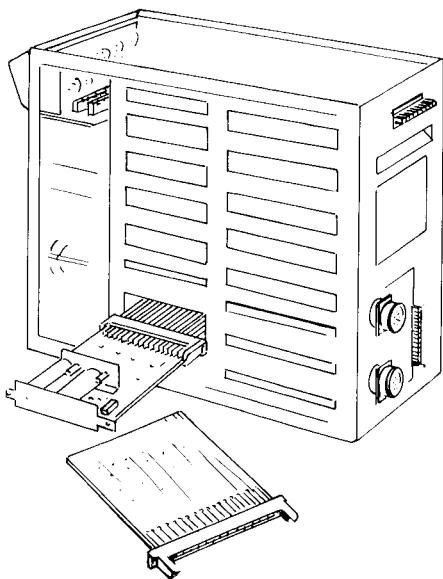

Fig. 6-2. Extender board used for circuit calibration.
- a. Remove the channel B Memory board, put it into an extender board, and reconnect into the chassis (see Fig. 6-2). Adjust R443 (B SIG. DC LEVEL, behind TIMING START switch) to the center of its range.